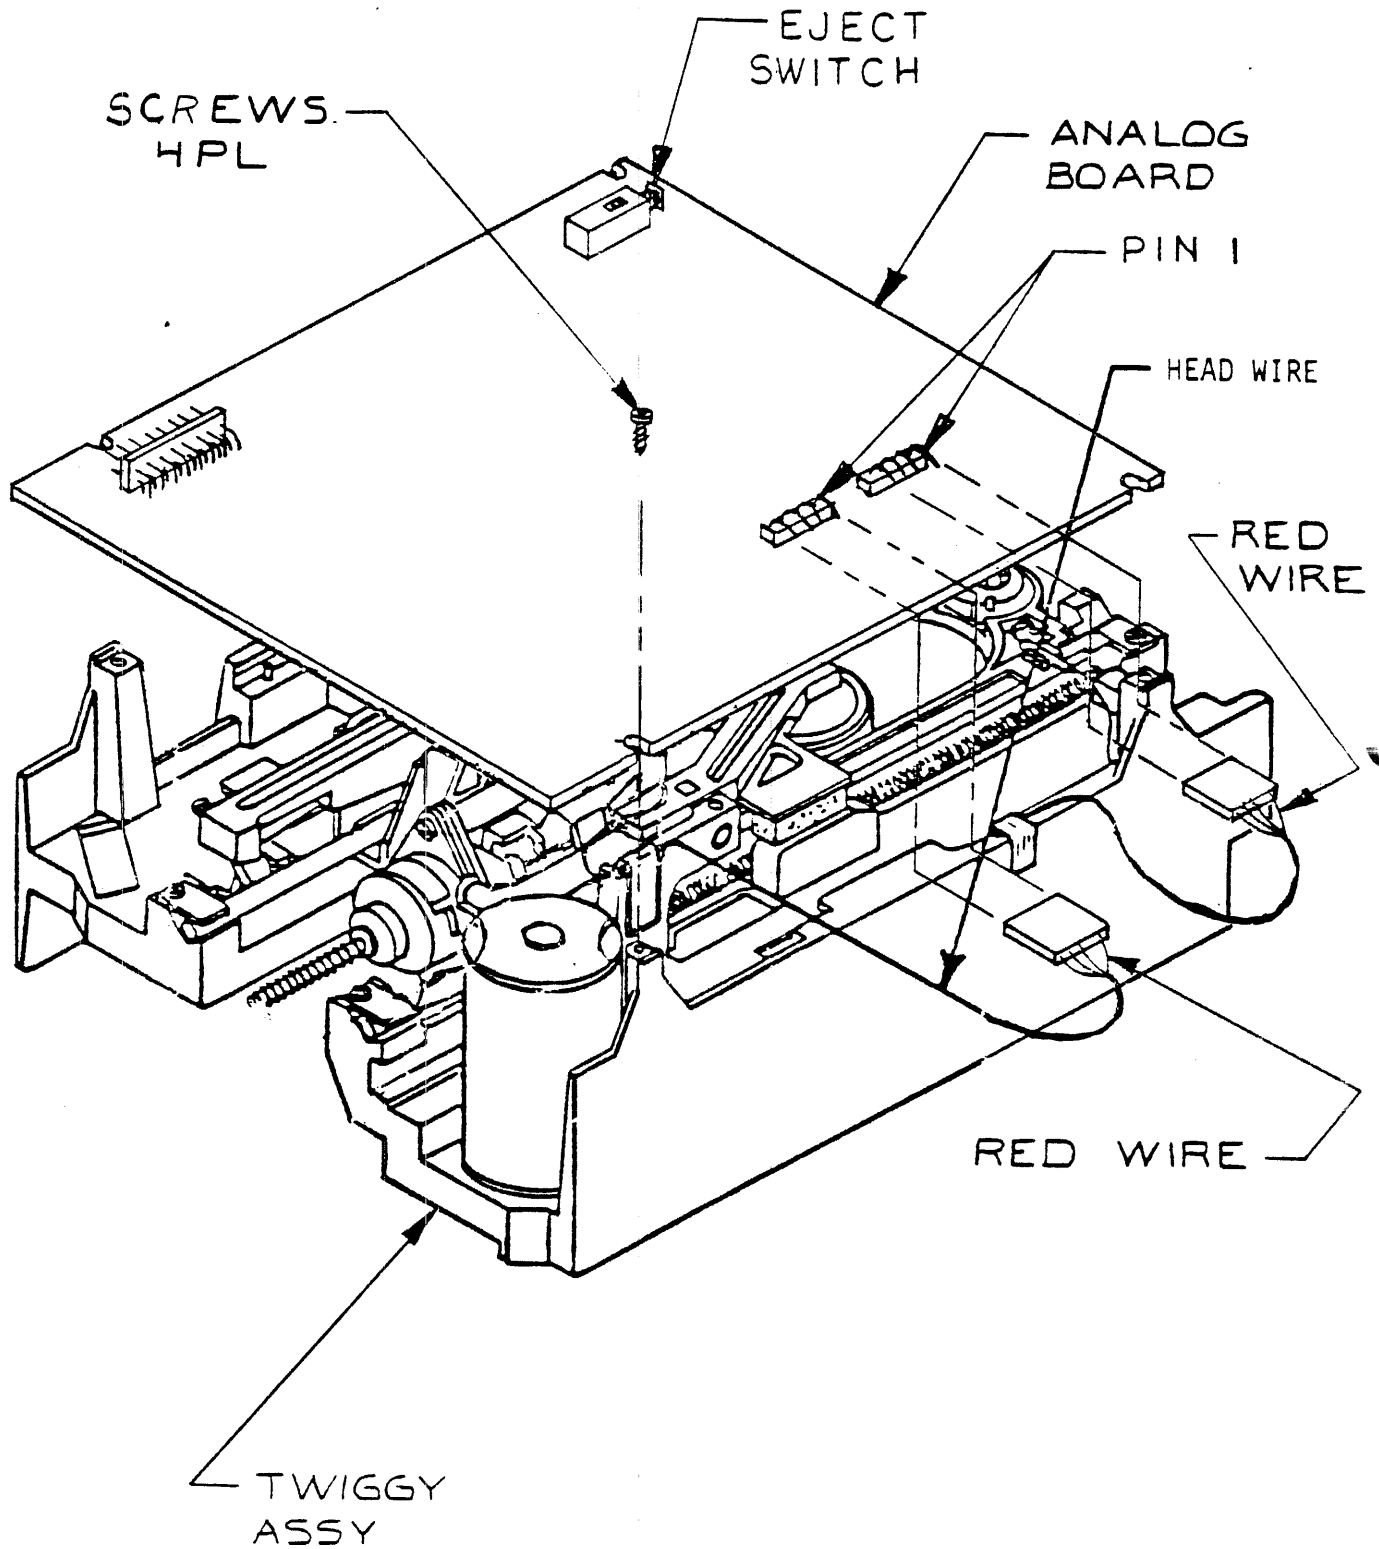

FIGURE 2. THE INSTALLATION OF THE ANALOG BOARD.
- 7.3.1 Install the analog board on the top-side of the chassis so that the board components face up as shown in Fig. 2. The eject switch labeled S1 must be positioned at the front of the chassis.
- 7.3.3 Connect the head cables to the board in the following way (See Fig. 2.):